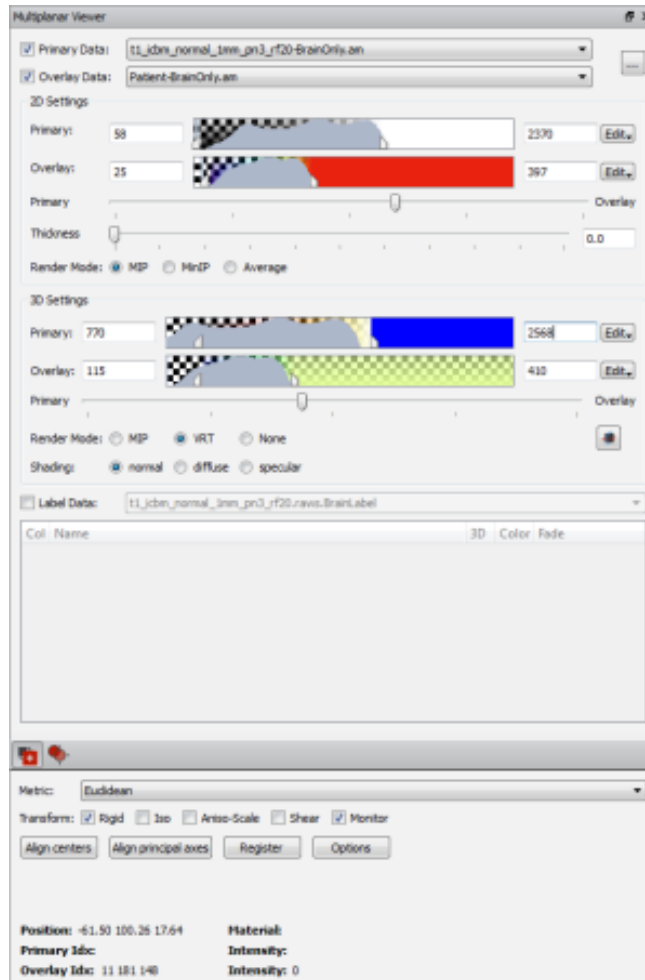

Figure 17.7: Data and window level settings of the *Multiplanar Viewer* for the automatic registration
- Set up *Primary/Overlay Data* as well as 2D/3D Settings as shown in Fig. 17.7. The colormaps used in this example are *GrayScale.am* / *physics.icol* for *2D Settings* and *Glow.col* / *volren-Green.col* for the *3D Settings*.